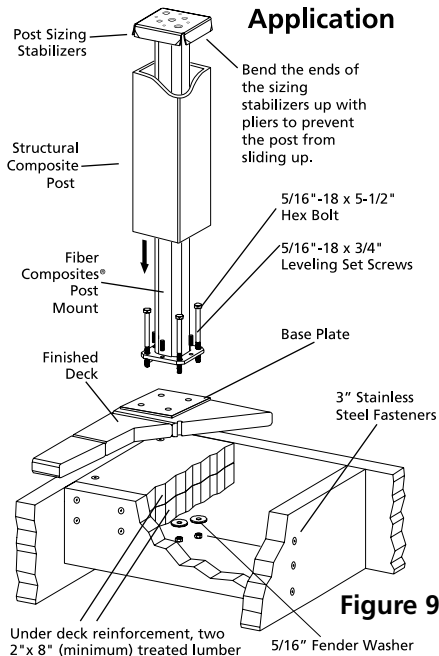

Figure 9
For Wood: (Fig. 9 - Corner, Fig. 10 - Line)
5. Align the base plate over the drilled holes as shown at left (Fig. 9).